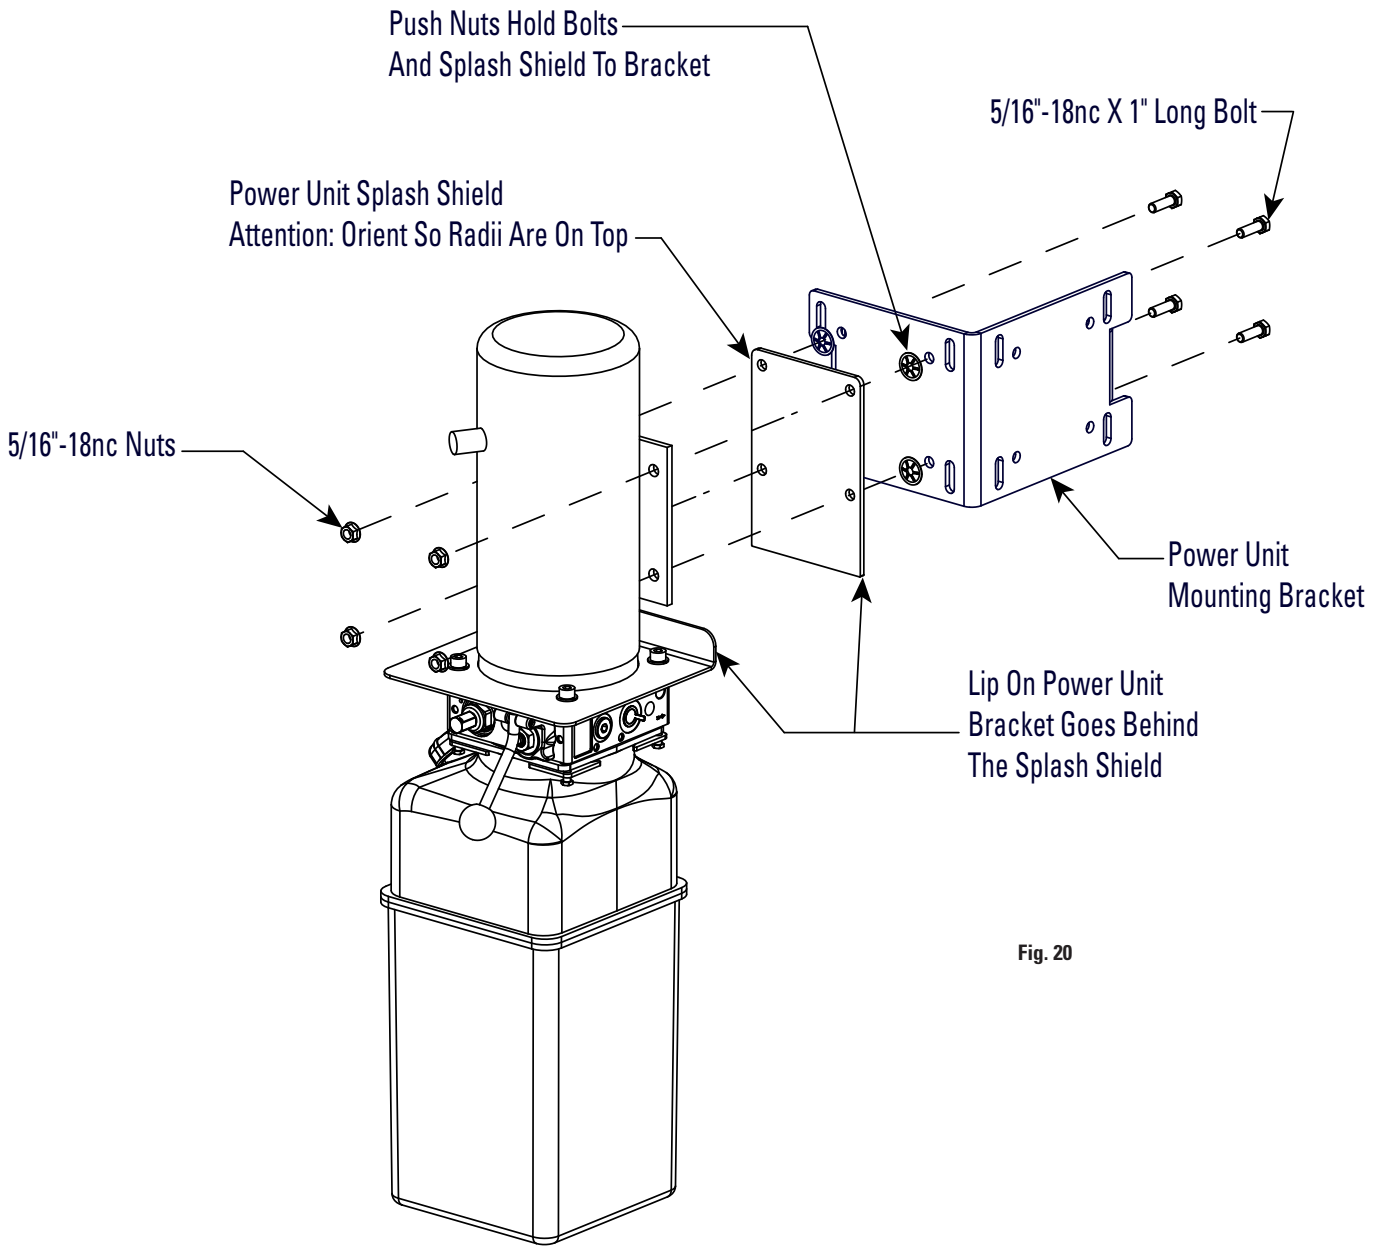

Fig. 20
- A. Put the (4) 5/16" -18NC x 1" HHCS thru holes in the power unit bracket using push-nuts to hold in place, Figure 20.
- B. Install splash shield and power unit to the column bracket and install 5/16" nuts, Figure 20. Be sure splash shield is behind lip on power unit.